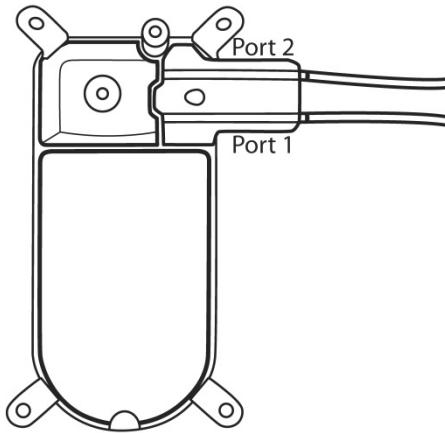

Figure 25 RNS® Neurostimulator port #1 and #2 locations. Port #1 is closer to the center of the neurostimulator and port #2 is closer to the edge.
7. Select **REVIEW & PROGRAM** at upper right (**Figure 25**).